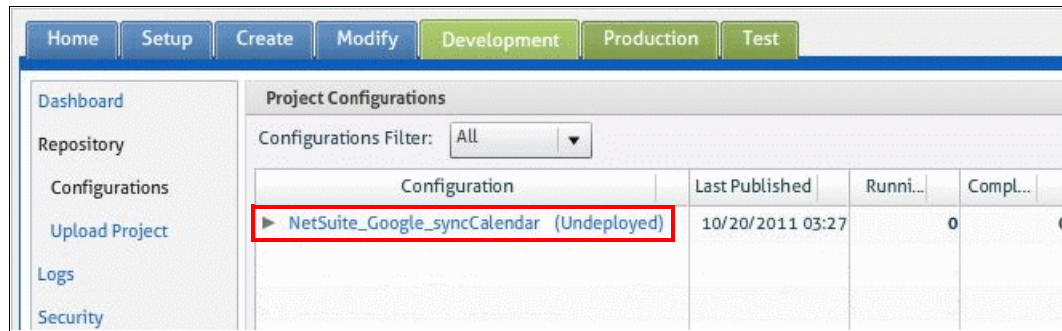

Figure 11-44 Project configurations in Cast Iron Live
1. Click the Development environment tab. Click the project configuration (circled in Figure 11-44).